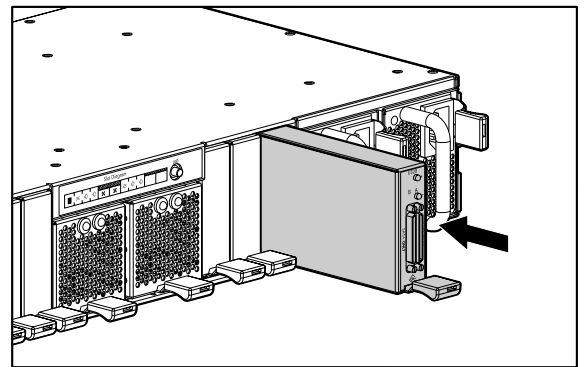

Figure 10: Installing the SCSI I/O module
1. Slide the SCSI I/O module into the bay until it clicks into place as shown in Figure 10.